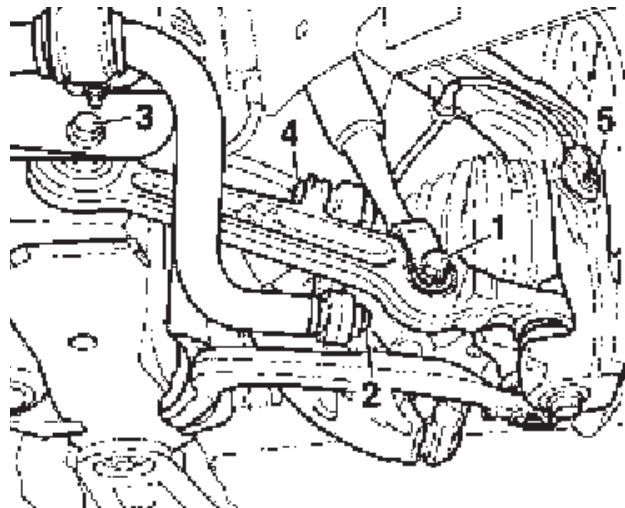

fig. 2
2. Remove lower shock bolt from track control link (bolt 1 in Fig. 2)
3. Disconnect the stabilizer bar (bolt 2 or 4 in Fig. 2)
4. Unbolt the track control link from the chassis (bolt 3 in Fig. 2)
3. Loosely install the clevis bolt into the lower control arm (Fig. 2). Also, loosely reinstall the track link to chassis bolt (Fig. 2). Loosely reattach the sway bar (Fig. 2). **Do not tighten these at this time.**